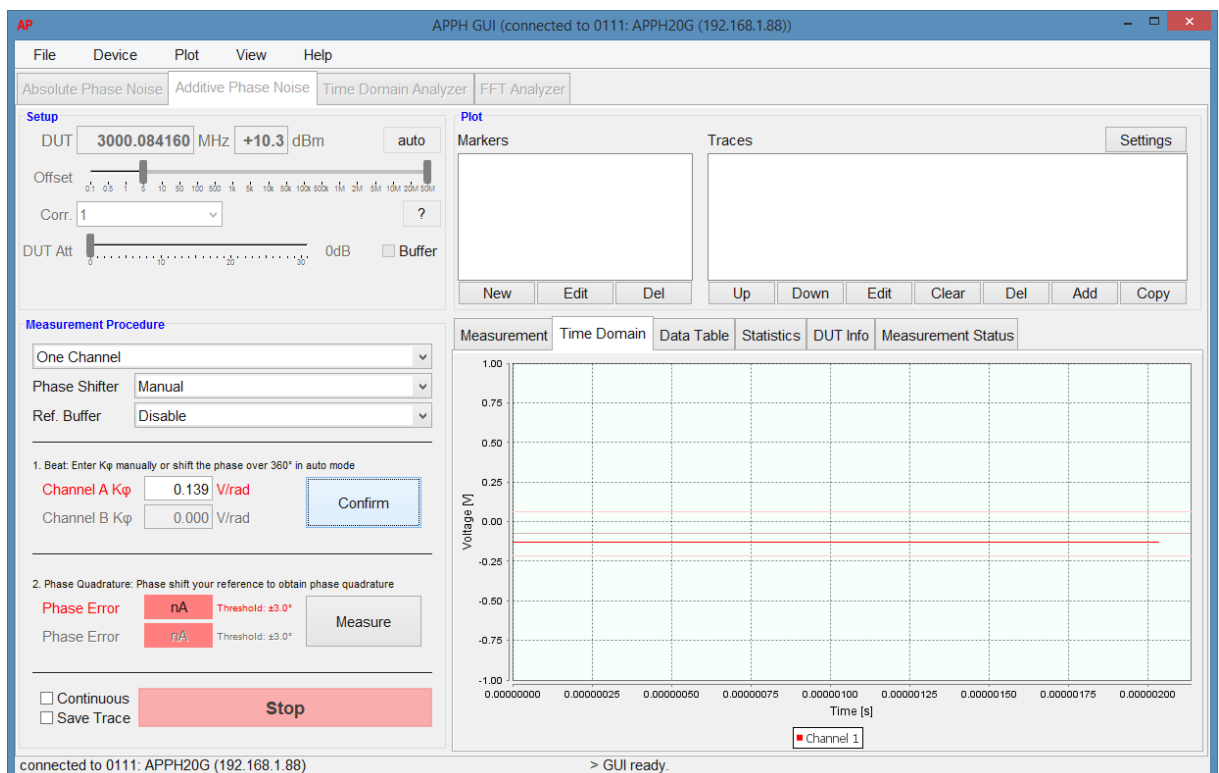

Figure 4: Rotating phase at the phase detector using the phase shifter will determine phase detector constant of the measurement setup
- Once the setup is completed, the calibration procedure is started by clicking on the first "Measure" button. Using the phase shifter, the phase is now rotated continuously over 360 degrees to determine the phase detector constant (see Figure 4). Complete the calibration step by clicking on the corresponding "Confirm" button.